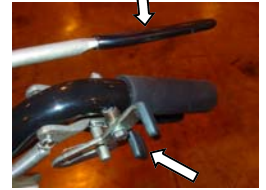

Figure 4
2. Disengage the parking brake detent levers using your thumbs while pushing down and holding the operator presence control levers on the handle grips and squeezing the hand brake lever. (Figure 4).